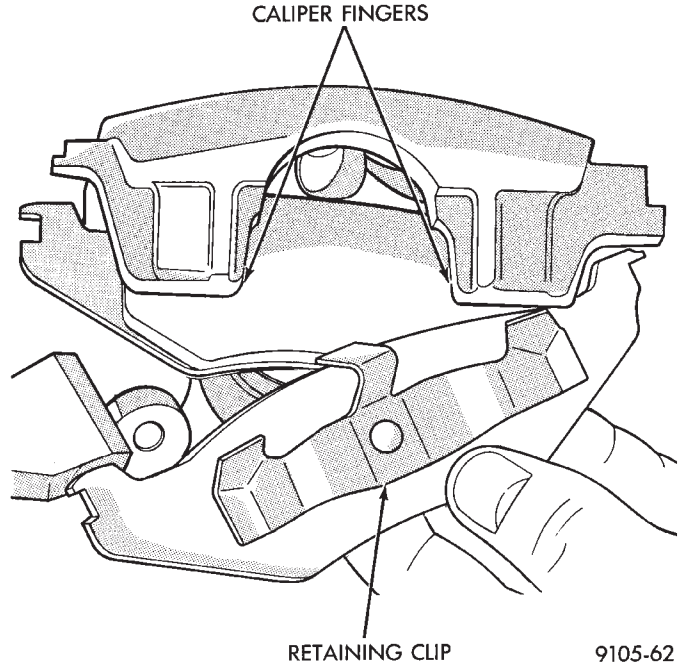
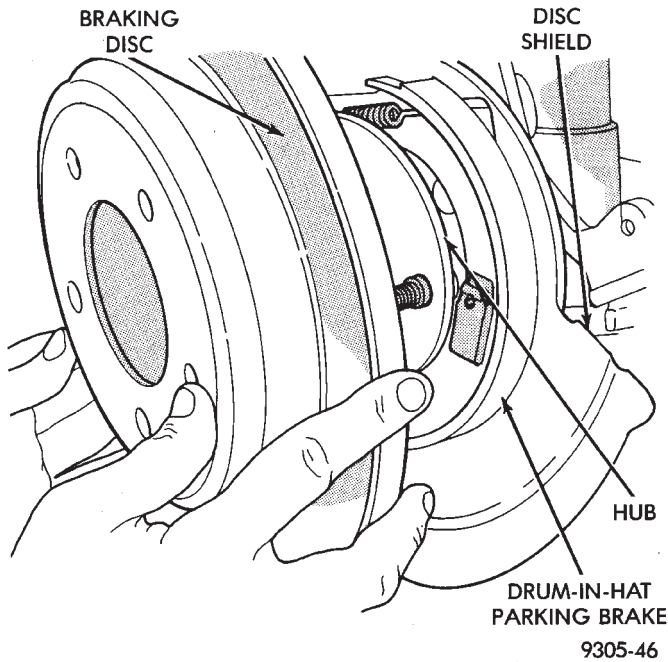

Fig. 101 Removing Outboard Brake Pad
Fig. 100 Rear Brake Rotor
(6) Remove rear rotor from hub/bearing (Fig. 100). Then inspect drum-in-hat parking brake shoes and parking brake braking surface on rotor for any signs of excessive wear or damage. Replace parking brake shoes if required.
(7) Remove outboard brake pad from caliper by prying brake pad retaining clip over raised area on caliper. Then slide brake pad down and off the caliper (Fig. 101).
(1) Completely retract the caliper piston back into the piston bore of the caliper. This is required for caliper installation when new brake pad assemblies are installed on caliper.
(2) Lubricate both adapter abutments with a liberal amount of Mopar® Multipurpose Lubricant, or equivalent.
(3) Install rear rotor on hub making sure it is squarely seated on face of hub (Fig. 100).
(4) Remove protective paper from noise suppression gasket on both inner and outer brake pad assemblies (if equipped).
(5) Install new inboard brake pad into caliper piston by firmly pressing it into bore of piston using thumbs (Fig. 101). **Be sure inboard brake shoe is positioned squarely against face of piston.**
(6) Slide new outboard brake pad onto the caliper (Fig. 101). Be sure retaining clip is squarely seated in the depressed areas on the caliper.